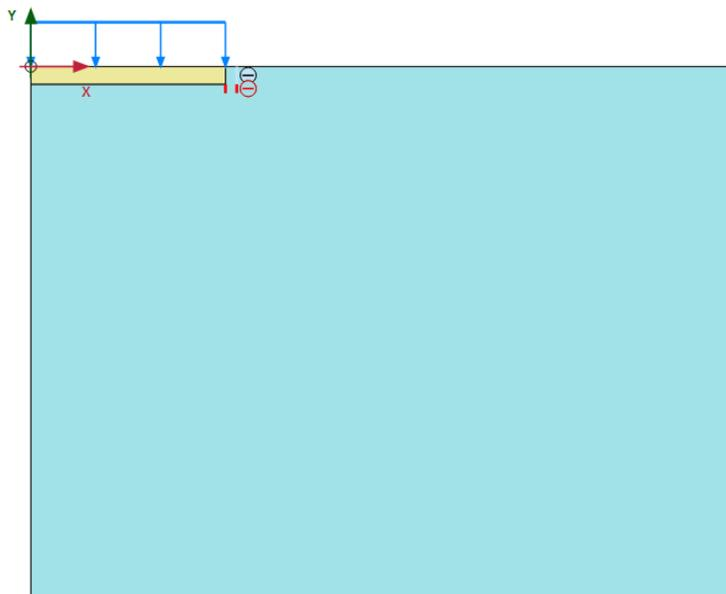

Figure 146: Geometry of the model
1. Click **Create interface** to create the upper part from (11.0, -1.0) to (11.0, 0.0), Figure 146 (on page 169).
2. Click **Create interface** to create the lower part (between foundation and soil) from (11.0, -1.5) to (11.0, -1.0), Figure 146 (on page 169).
5. For the interface material extended into the soil, full soil strength is applied ( $R_{inter} = 1.0$ ), as implicitly defined in the original clay material **Clay - total load**. Keep the default setting **Material mode**: From adjacent soil. The geometry of the model is shown in Figure 146 (on page 169):